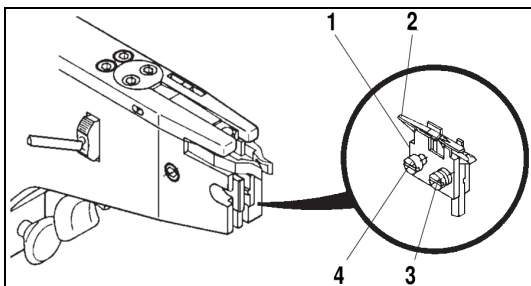
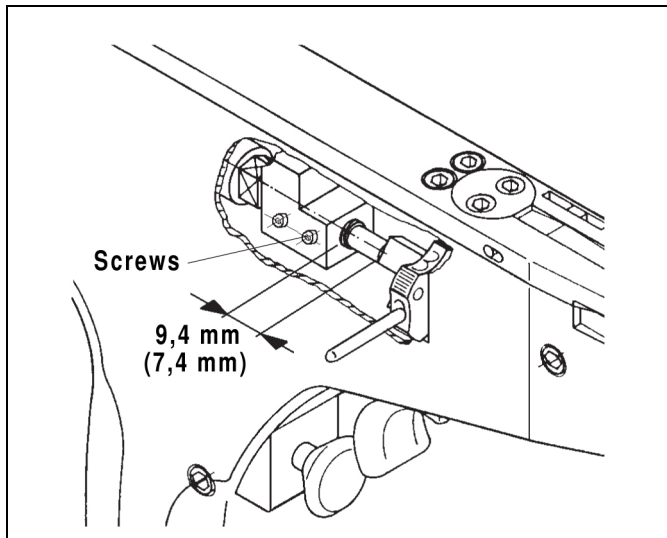

Fig. 19: Clip Guide Anvil Replacement
Fig. 21: Dimension check
2. Remove the right post pickup (25) by lifting it from its pin; use care not to damage the tubing.
4. Remove screws (7; 8), tooling foot (28) and attachment key (9).
5. Remove the complete block (Fig. 19) containing left and right guide plates (4; 5).
2. Remove both screws (51) and reel holder (31) from tool body.
3. Remove screws from side cover (2) and remove side cover; use care not to lose spring (39)!
4. Loosen screws (54) (Fig. 19).
5. Unscrew screwing "L" (44); do not lose the gaskets. Now remove air cylinder from tool.
6. Carefully screw replacement air cylinder into the tool by simultaneously pulling and screwing until air cylinder reaches its end-position. Check that dimension "9.4 mm" is ok (Fig. 21)!